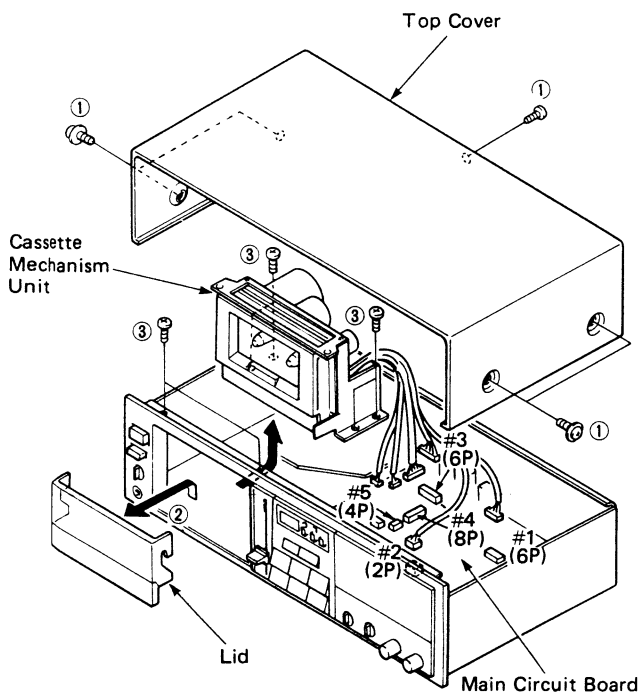

Fig. 1
Remove 5 screws (①) in Fig. 1.
- Remove the Lid (②) in Fig. 1.
- Detach 6 connectors (# 1 ~ #5) in Fig. 1.
- Remove 6 screws (③) in Fig. 1 and then pull off the mechanism unit to the back side gently.